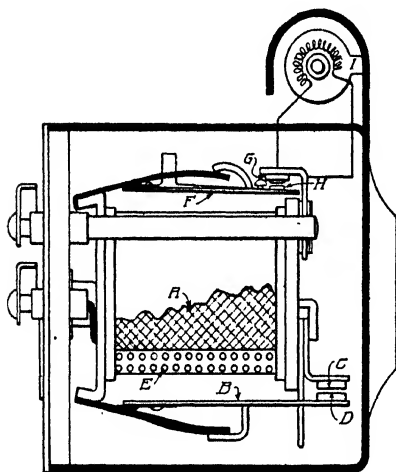
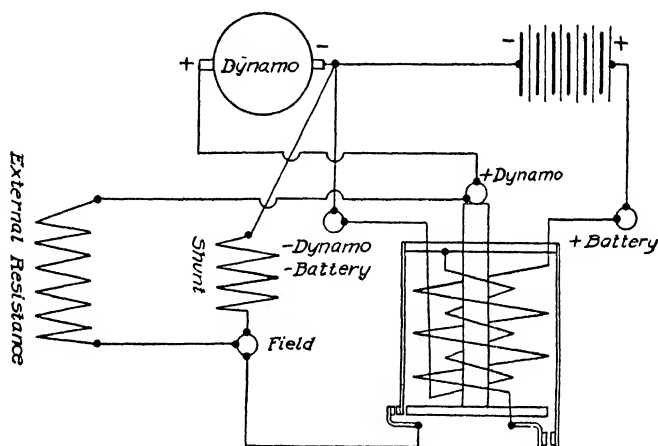

Fig. 274. Sectional View Showing Details of Dyneto Regulator-Cut-Out
Fig. 275. Connections for Dyneto Regulator Cut-Out
**Regulation.** Regulation is effected by means of a vibrating regulator, which is combined with the battery cut-out. This cuts in at a speed equivalent to 10 miles per hour, and the generator reaches its maximum normal output of 10 to 12 amperes between 12 and 15 miles per hour. The regulator does not become operative until the current flow increases to 10 to 12 amperes, at which point it is held regardless of the speed. The details of the combined regulator and cut-out are shown in Fig. 274, while all the connections are shown in the diagram, Fig. 275. As soon as the dynamo runs fast enough to cause it to generate, a portion of the current passes through the
winding *A* of the cut-out, Fig. 274. This is ordinarily known as the voltage winding and is of fine wire, so that very little current is required to energize the core and attract the armature *B*, which closes the contact points *C* and *D*. These points close the circuit through the coil *E*, which is of heavy wire and is known as the current coil. As the current in both coils is in the same direction, their exciting effect on the magnet core is cumulative, and the points are held together that much more firmly.